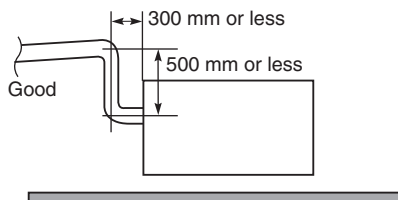

Fig. 3-11
- If it is necessary to increase the height of the drain pipe, the section directly after the connection port can be raised a maximum of 500 mm. Do not raise it any higher than 500 mm, as this could result in water leaks. (Fig. 3-11)